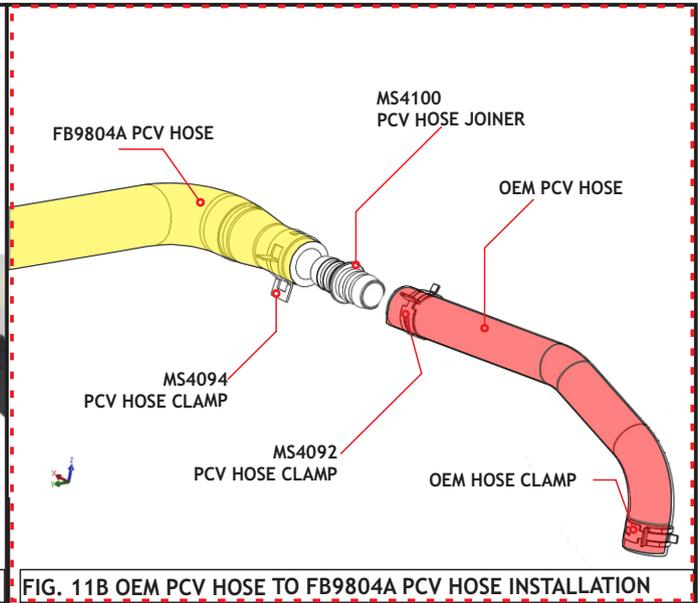

FIG. 11B OEM PCV HOSE TO FB9804A PCV HOSE INSTALLATION
- Install the larger end of the shorter supplied MH9804A PCV hose on to the upper, outlet port, of the RCC350 Catchcan and tighten with a MS4091 hose clamp. Install the other end of the MH9804A PCV hose on to the supplied MS4100 PCV hose joiner, tightening with a MS4094 PCV hose clamp. Insert other end of MS4100 PCV hose joiner into the open end of the OEM PCV hose and tighten with a supplied MS4092 hose clamp as shown in Fig. 11B.